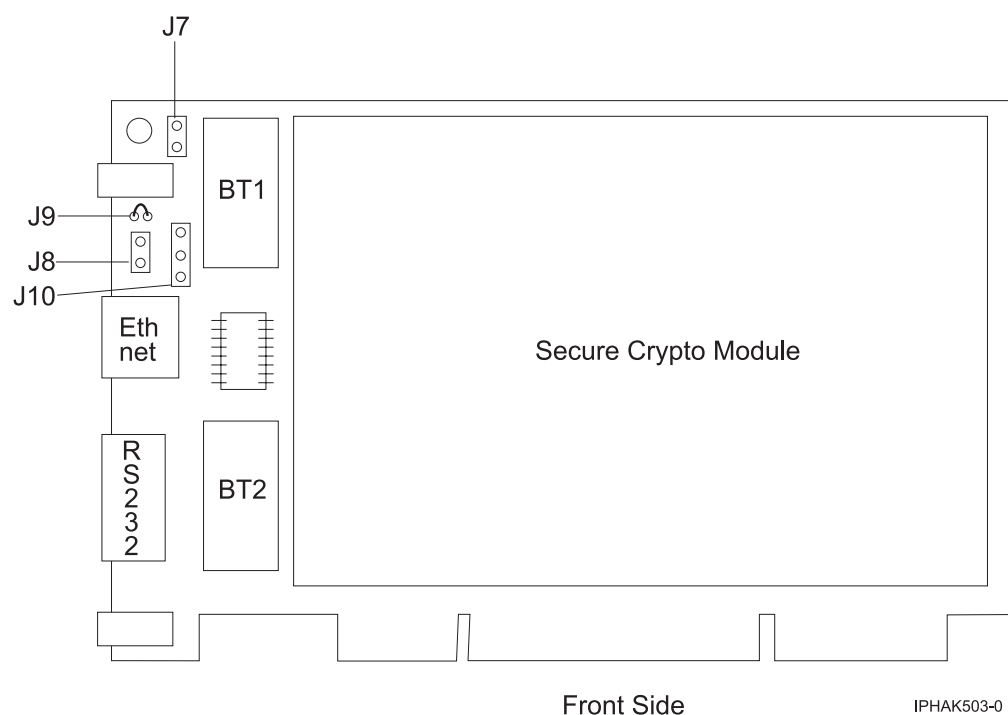

Figure 67. Front side of the adapter
6. Insert one of the new batteries into the battery tray provided with the kit. Align the + on the battery with the + on the battery tray (the end with the red wire). Connect the tray wires to the J10 connector located near the RS-232 serial port, as shown in Figure 67 on page 199. The connector is polarized to ensure a correct connection.